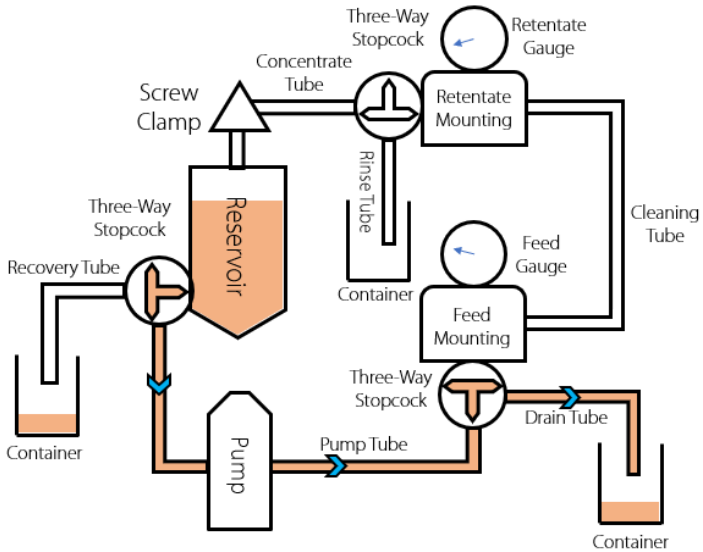

Figure 6
- f. To drain the solution completely, please set the three-way stopcock of the reservoir and adjust the flow path as shown in figure 6. Turn on the pump to drain the solution.
(3) Capsule Rinsing